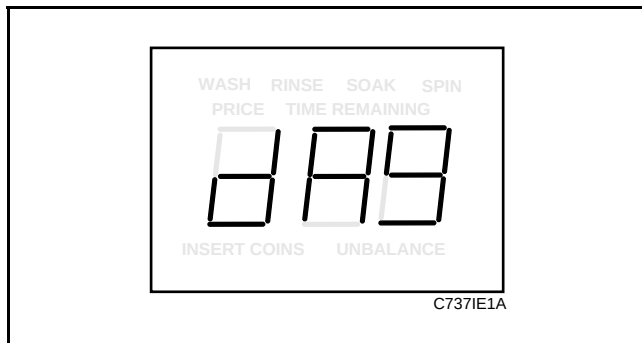

Figure 59
3. Press the DELICATES (+) pad or the COLD (-) pad to scroll through the programmable options until “dAg” appears in the VFD. See **Figure 59**.